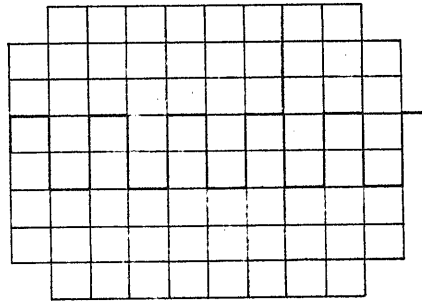

Figure 5
- 3) Move the trace to approximately the center of the screen by adjusting CH1 POSITION knob ⑧ and horizontal POSITION knob ⑩.
- 4) So adjust the FOCUS knob ③ that the trace becomes sharpest.
- 5) Connect the probe to CH1 INPUT terminal ⑬ and apply to the probe the signal of CALIB terminal ④.
- 6) Set the GND ⑫ switch in the popped up state (I), and so adjust the LEVEL knob ⑮ that the displayed waveform becomes stationary. A waveform as shown in Figure 5 must be displayed on the CRT screen.